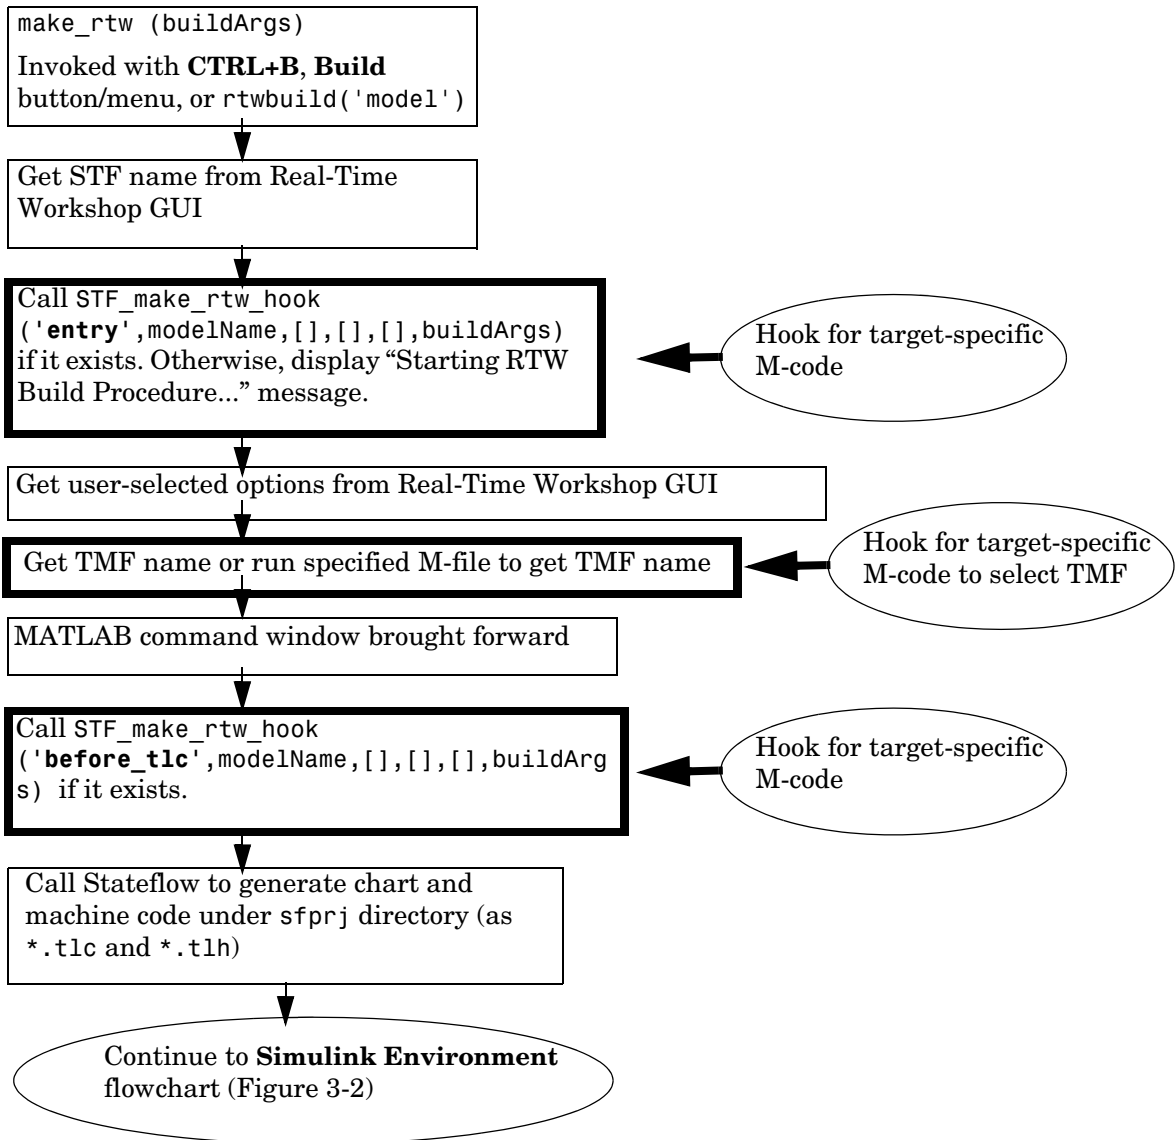

Figure 3-1: MATLAB Environment for Build Process
- Figure 3-1 on page 3-11 depicts the initial M-code execution phase.